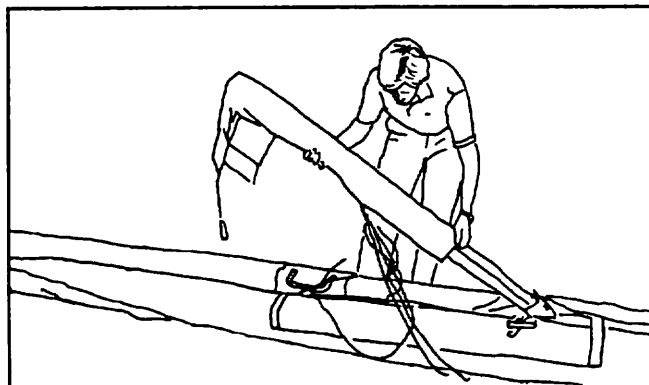

Figure 64
11) Detach the upright from the basetube, and fold up the control bar. Put the cover bag on the control bar and pull it all the way forward. (Figure 64)